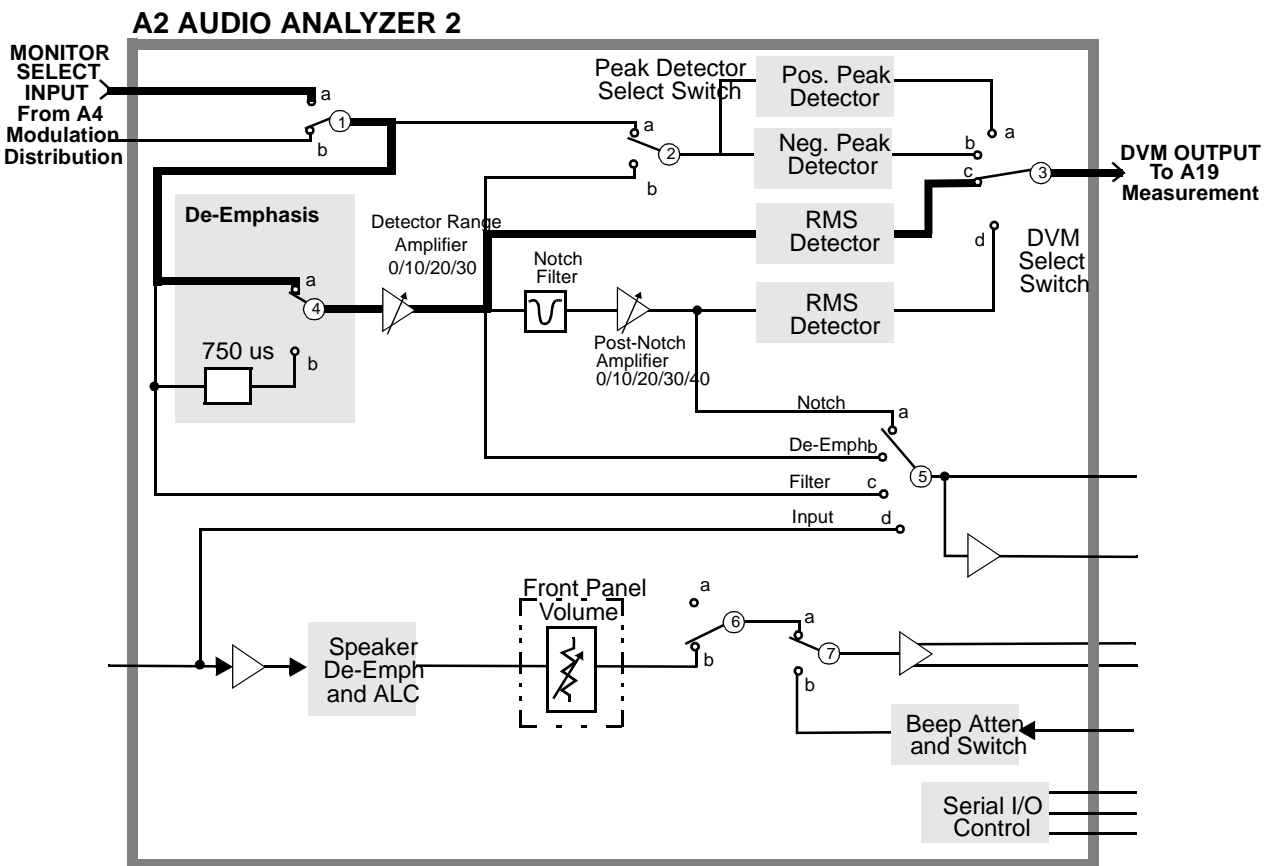

Figure 75
The gain of the Detector Range Amplifier (Paths 5 to 7) is 3.16, 10, and 31.6 corresponding to gains of 10 dB, 20 dB, and 30 dB. The gain of the Post-Notch Amplifier (Paths 11 to 14 in **figure 75**, "Audio Analyzer 2 Path 8," on page 629) is similar.
- For Test Sets with the variable-frequency notch filter, the input is set to 1 kHz and the notch output is nulled using a notch-error detector in conjunction with a DAC-setting routine. (The notch-error detector is not shown in **figure 75**, "Audio Analyzer 2 Path 8," on page 629, but it is multiplexed with the pre-notch RMS detector.)